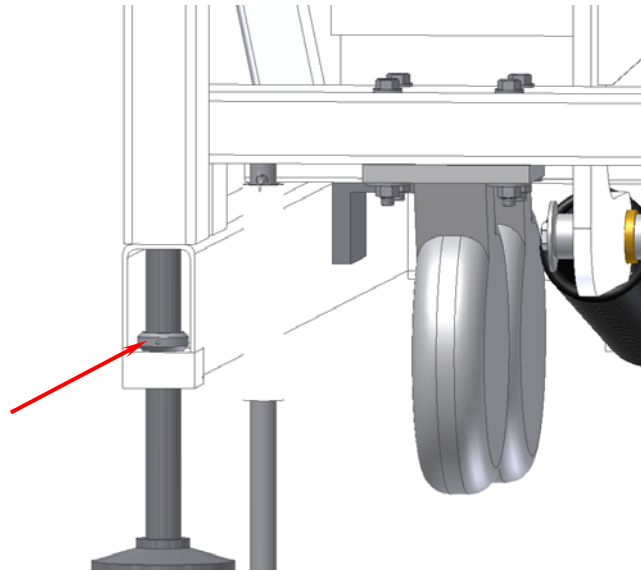

Figure 8-3: Tighten set screws on foot stops.
7. Set both foot stops to the bottom of the openings in the front of the base and tighten both setscrews using the 3/16" hex wrench (Figure 8-3).